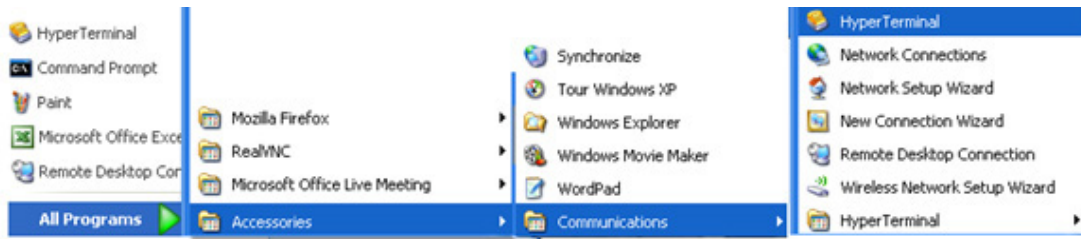

Figure 20-6. Hyper Terminal Application
3. Open the HyperTerminal application as shown in Figure 20-6.